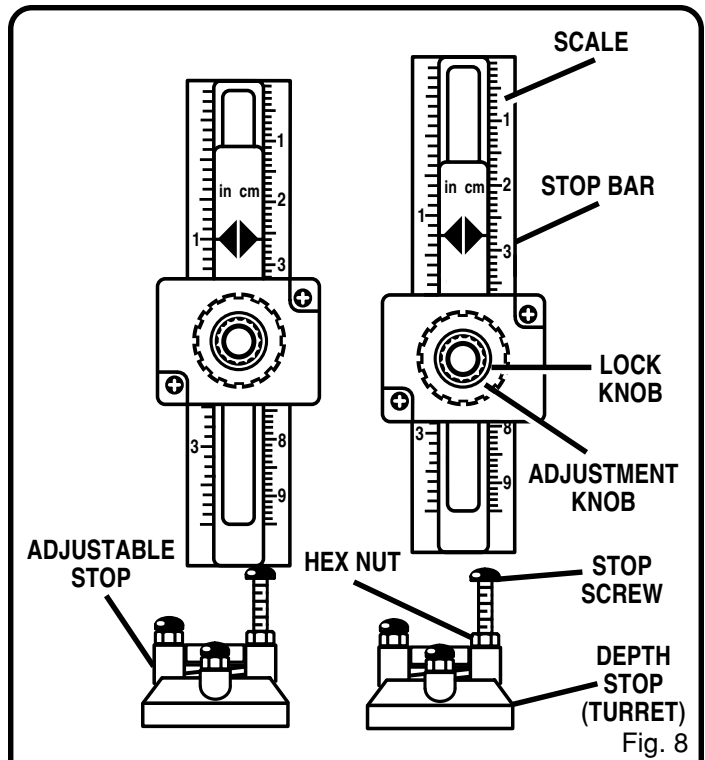

Fig. 8
- Rotate depth stop to desired position, loosen lock knob, then turn adjustment knob until stop bar touches stop screw on depth stop. See Figure 8.
- Next, turn adjustment knob in the opposite direction, lifting stop bar to obtain desired depth of cut. See Figure 8. For example, if setting 1/16 in. (1.6 mm) depth of cut, the scale will move 1/16 in. (1.6 mm) from the reference point.